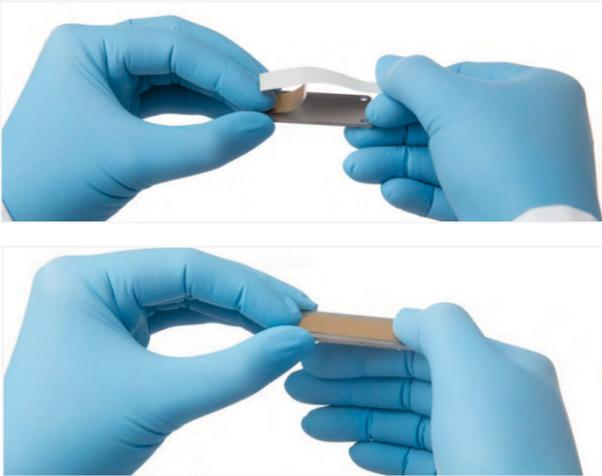

Figure 3. Sealing flow cell ports.
7. Seal both flow cell ports with the sealing tape as shown in Figure 3.